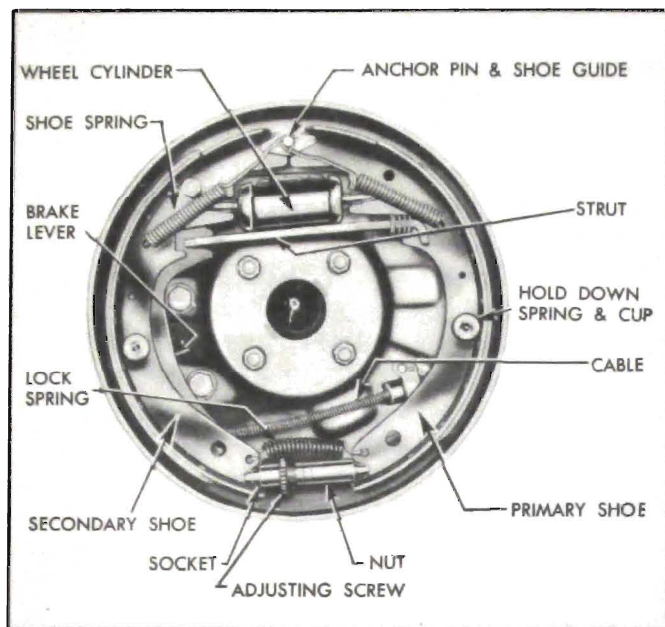

Figure 8-11—Rear Wheel Brake Assembly—Right
lever (rear only). See figure 8-11.
3. Separate the brake shoes by removing adjusting screw and lock spring. Remove parking brake lever from secondary brake shoe (rear lever (rear only)). See figure 8-11.
2. On rear brakes only, lubricate fulcrum end of parking brake lever and the bolt with Bendix or Delco Brake Lubricant, or Lubriplate, then attach lever to secondary shoe with bolt, spring washer, nut, and Pal nut. Make sure that lever is free moving. See figure 8-11.
4. Attach brake shoes to backing plate with hold down springs, pins, and cups, at the same time engaging shoes with wheel cylinder connecting links. The primary shoe (short lining) goes forward. On rear brakes, connect cable to parking brake lever and install strut between lever and primary shoe as installation is made. See figure 8-11.